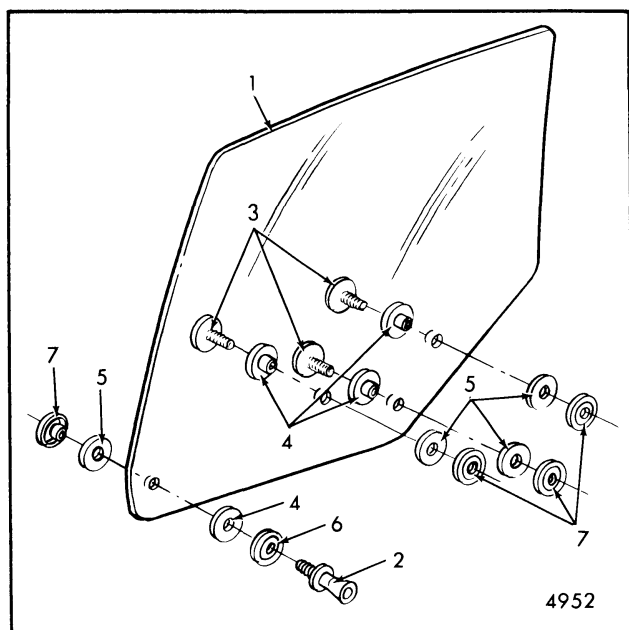

Fig. 5-124-Rear Door Window Assembly - "A-29,35" Styles
Figure 5-124 is an exploded view of the window assembly and identifies the various components and their sequence of assembly.
**NOTE:** When replacing a window assembly, install new glass spacers and washers ("4" and "5", Fig. 5-124) and torque glass components attaching nuts to 72 inch pounds (6 foot pounds).